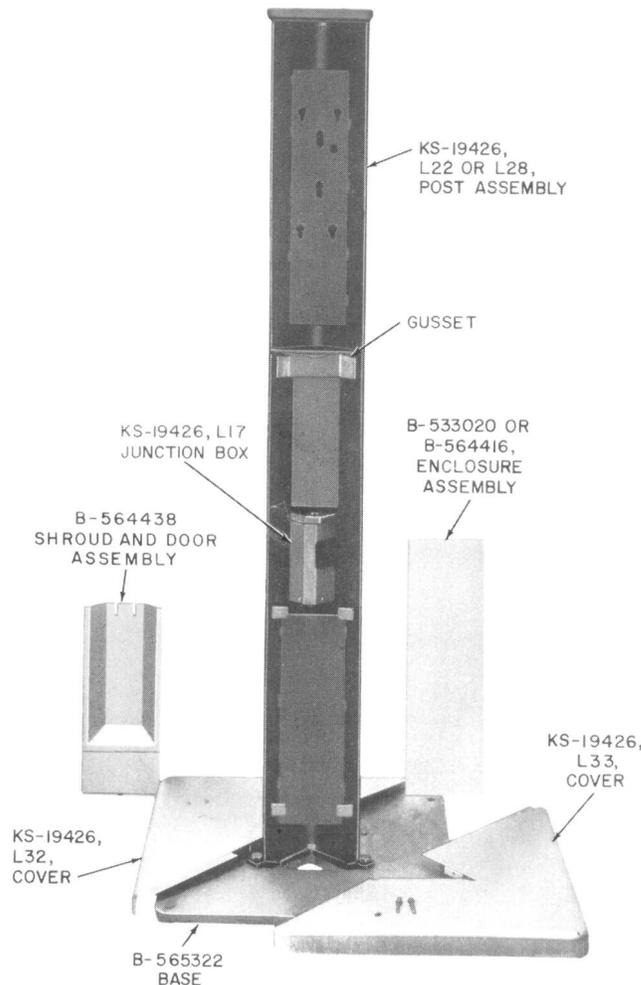

Fig. 4—Installation of Base and Post Covers
- (a) Loosen three tamper proof screws and remove B-564438 shroud and door assembly from the post(s) (Fig. 4).
- (b) Remove B-533020 or B-564416 enclosure assembly (Fig. 4) from the post(s) by sliding up and disengaging clips.
- (h) If this installation is to have underground wiring, install telephone wiring at this time using the right-hand hole in the gusset (Fig. 4).
2.15 List 32 and 33 Base Covers: Install KS-19426, List 32 and List 33 base covers or two KS-19426, List 33 base covers as follows (Fig. 4):
(a) Install B-563020-2 or B-564416-2 enclosure assembly (Fig. 4) on the lower portion of the post by engaging the clips of the enclosure with the corresponding brackets on the post and sliding down flush against the base cover.